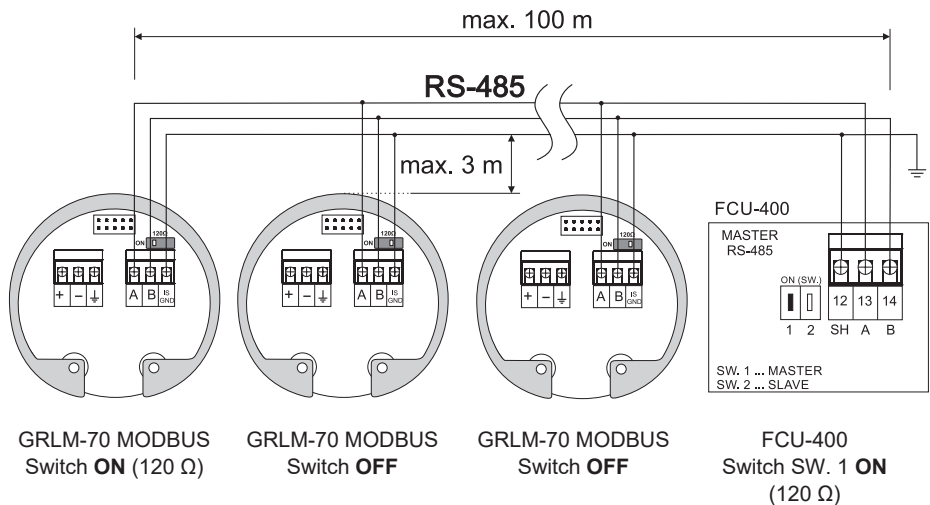

Fig. 23: Connection of multiple units via RS485 to a network
6. If the level meter with Modbus is involved as a terminal for RS-485, we recommend (to avoid reflections on the line) to connect 120Ω termination resistor. This is done by moving a small lever of the switch marked 120Ω to the ON position. On the level meters connected to the line RS-485 as an intermediate device, the termination resistors are not connected (switch remains off) in Fig 23.
Maximum distance of the module from the continuous line (length of T segment) is 3 m (fig. 23).
At the end units, it is necessary to connect terminating resistors R_z 120 Ω , whilst the terminating resistors must not be connected on the continuous units (fig. 23).